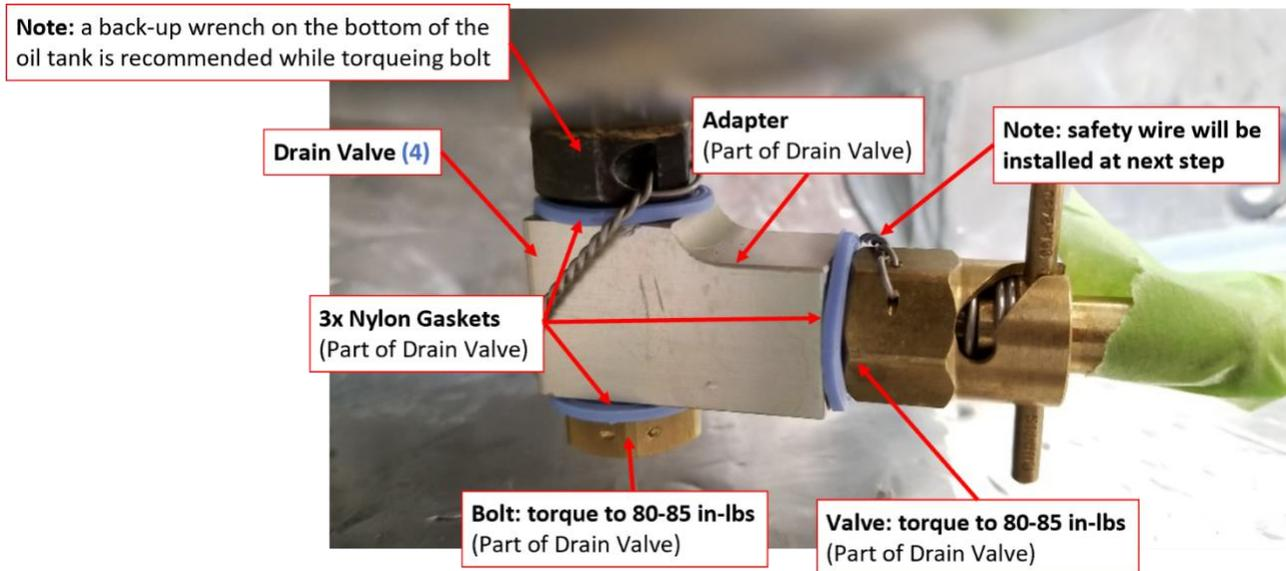

Figure 1 – Oil Tank Drain Valve and Bolt Location and Torque Specification
2. Cut the safety wire securing the bolt and the tank valve assembly to the tank (shown in Figure 1) and discard.
6. Ensure the drain valve is in the closed position as shown in Figure 1.
7. Install safety wire onto valve and adapter. After securing valve to adapter, install safety wire to secure bolt to oil tank. A separate piece of safety wire secures the bolt to the oil tank and a second piece of safety wire secures the valve to the adapter as shown in Figure 1. Ensure not to loosen the oil drain when installing the safety wire.